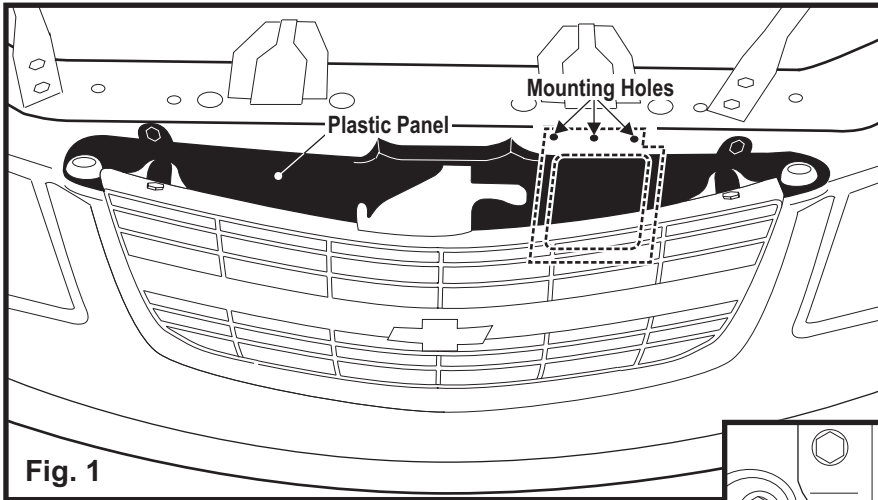

Fig. 1
2. Locate the plastic panel covering the area between the grill and the radiator support and remove its mounting screws (refer to the vehicle owner's manual for detailed information). Remove this panel from the vehicle (Fig. 1).
3. Find the 3 existing holes on the vehicle that you will mount to (Figs. 1 & 2) located above the oil cooler. Mount the siren with bracket to the vehicle using the supplied self tapping bolts as shown (Fig. 1 & 4). Be sure the hood release cable goes behind the siren bracket as shown.